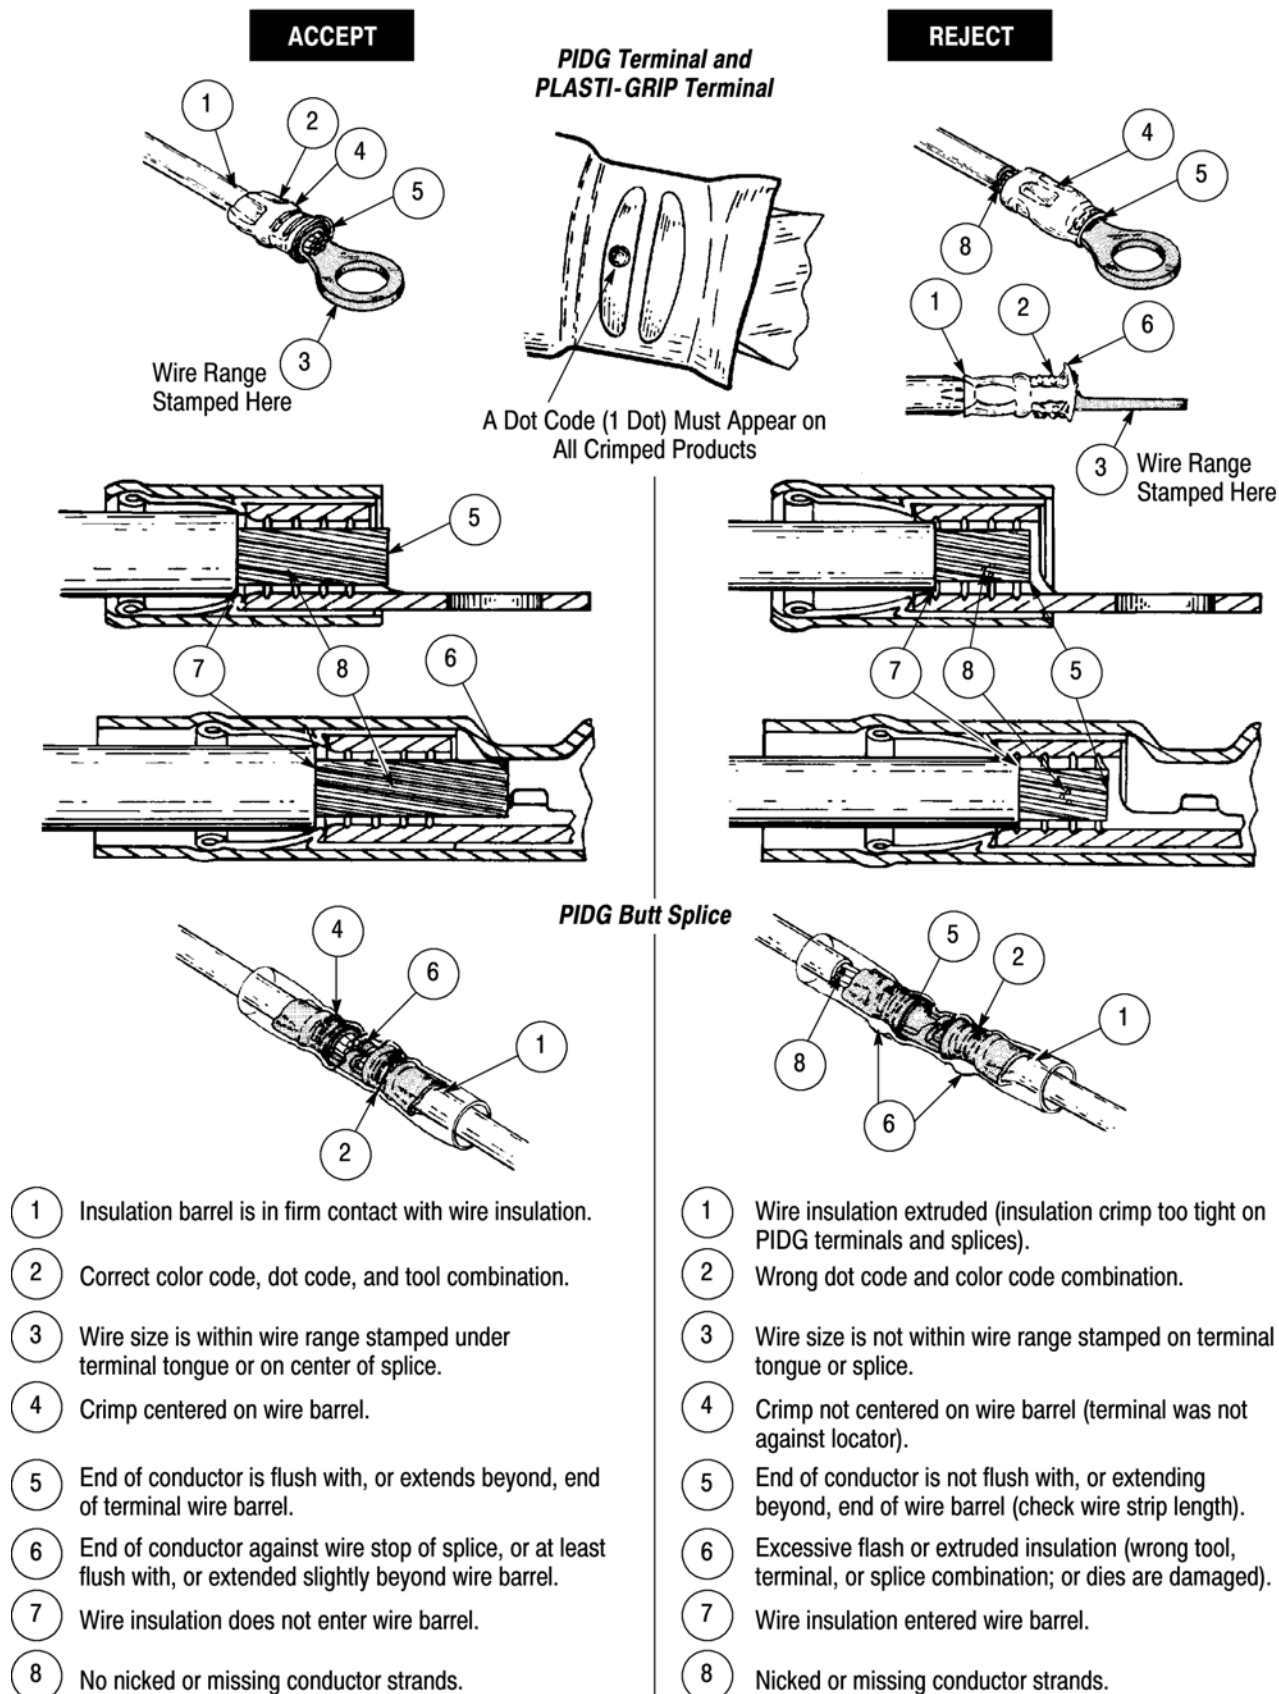

Figure 7
8. Inspect the crimp to make sure that it conforms to Figures 7 and 8. Terminals not meeting the described conditions should NOT be used.
8. Inspect the crimp to make sure that it conforms to Figures 7 and 8. Splices not meeting the described conditions should NOT be used.
8. Inspect the crimp to make sure that it conforms to Figures 7 and 8. Spare wire caps not meeting the described conditions should NOT be used.